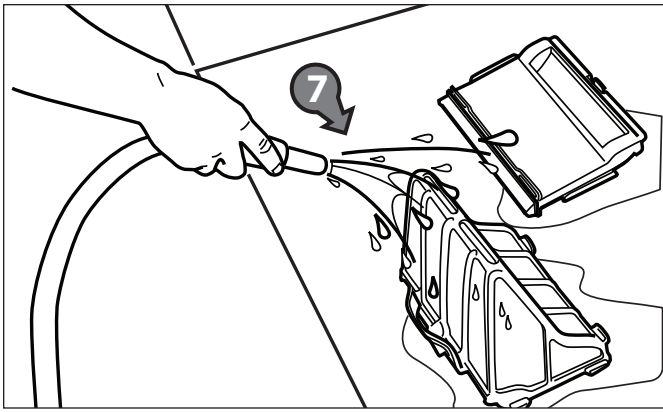

Figure 24. Wash Filter Canister
9. Empty all debris from the filter canister, then rinse the canister, the filter support, and the cleaner under water or using a hose (Figure 24).